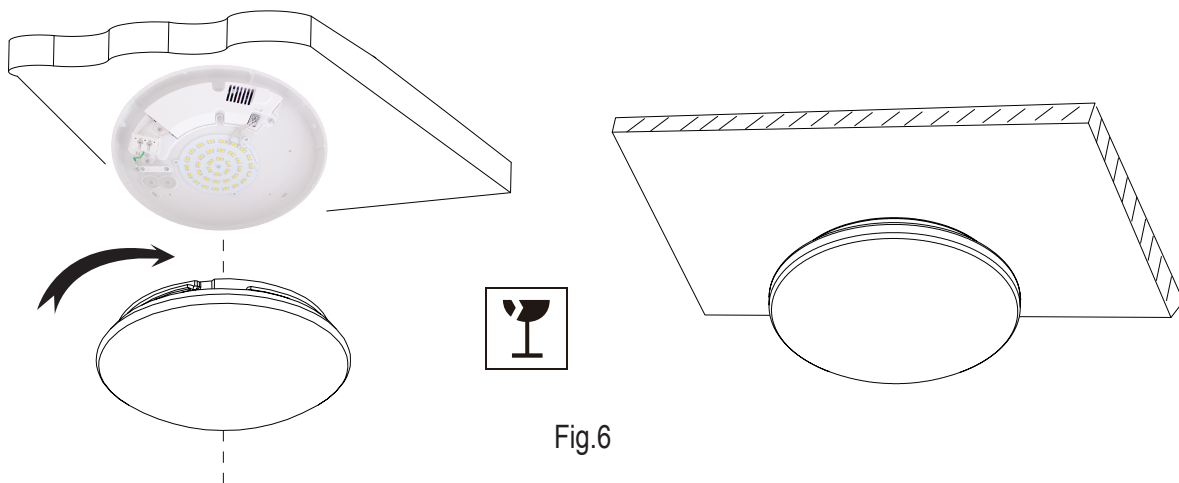

Fig.6
- Step6 Will rotate, cover chimney on base (as Fig.6)